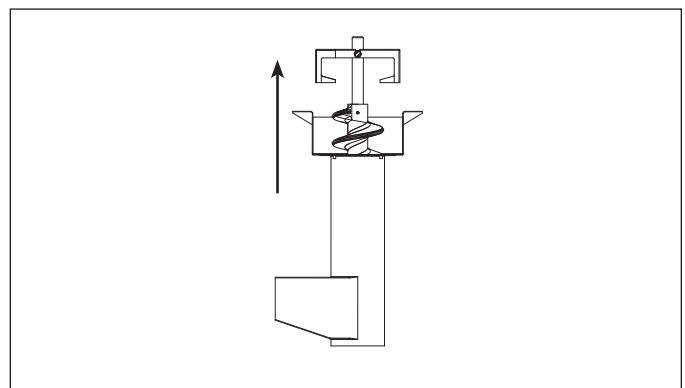

Figure 28.
5. Remove auger from screen by lifting it up and out (see Figure 28).